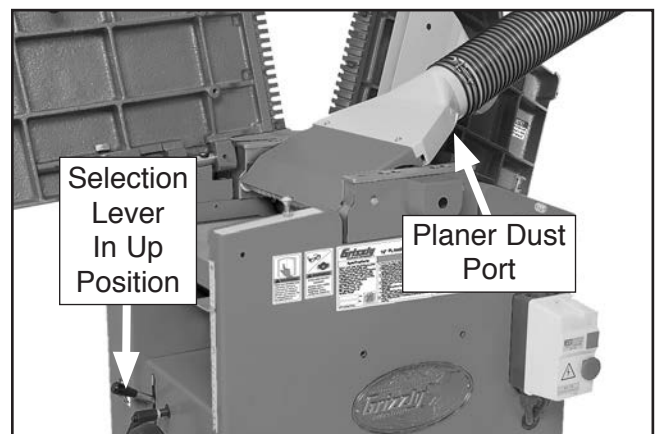

Figure 35. Machine converted to planer.
6. Swing planer dust port clockwise over cutterhead and connect dust collection hose, as shown in **Figure 35**.
7. Move jointer/planer selection lever to up position (see **Figure 35**).